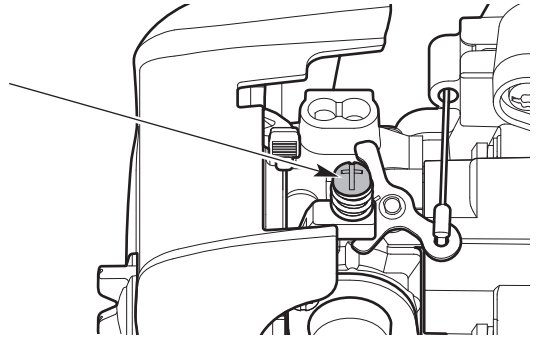

Fig. 19
- If the engine stops, increase the idle speed. Use a small Phillips screwdriver to turn the idle speed screw clockwise, 1/8 of a turn at a time, until the engine idles smoothly (Fig. 19).
- If the blades move when the engine idles, reduce the idle speed. Turn the idle speed screw counterclockwise, 1/8 of a turn at a time, until the blades stop moving (Fig. 19).